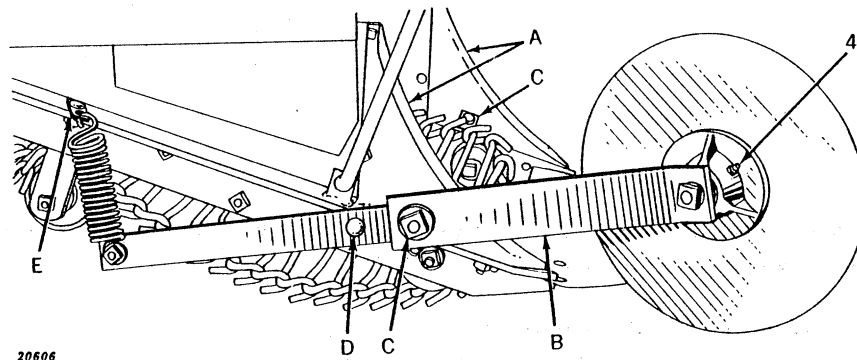

Figure 28
1. (Figure 28) Attach support arms "B" to the large bolt in casting "A" at "C."
2. (Figure 28) The working depth of the coulters is controlled by the bolt and the pipe bushing at "D" in the rear of arm "B."
3. (Figure 28) Attach strap to front section as shown at "E."
4. (Figure 28) Grease Zerk fittings in each hub frequently.